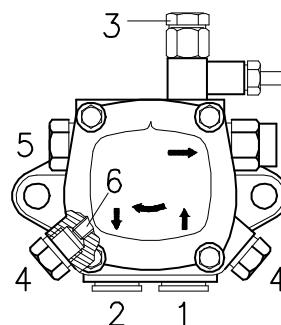

Fig. 17
6.3 Pump (Fig. 17)
- In order for self-priming to take place, one of the screws 3) (Fig. 17) of the pump must be loosened in order to bleed off the air contained in the suction line.